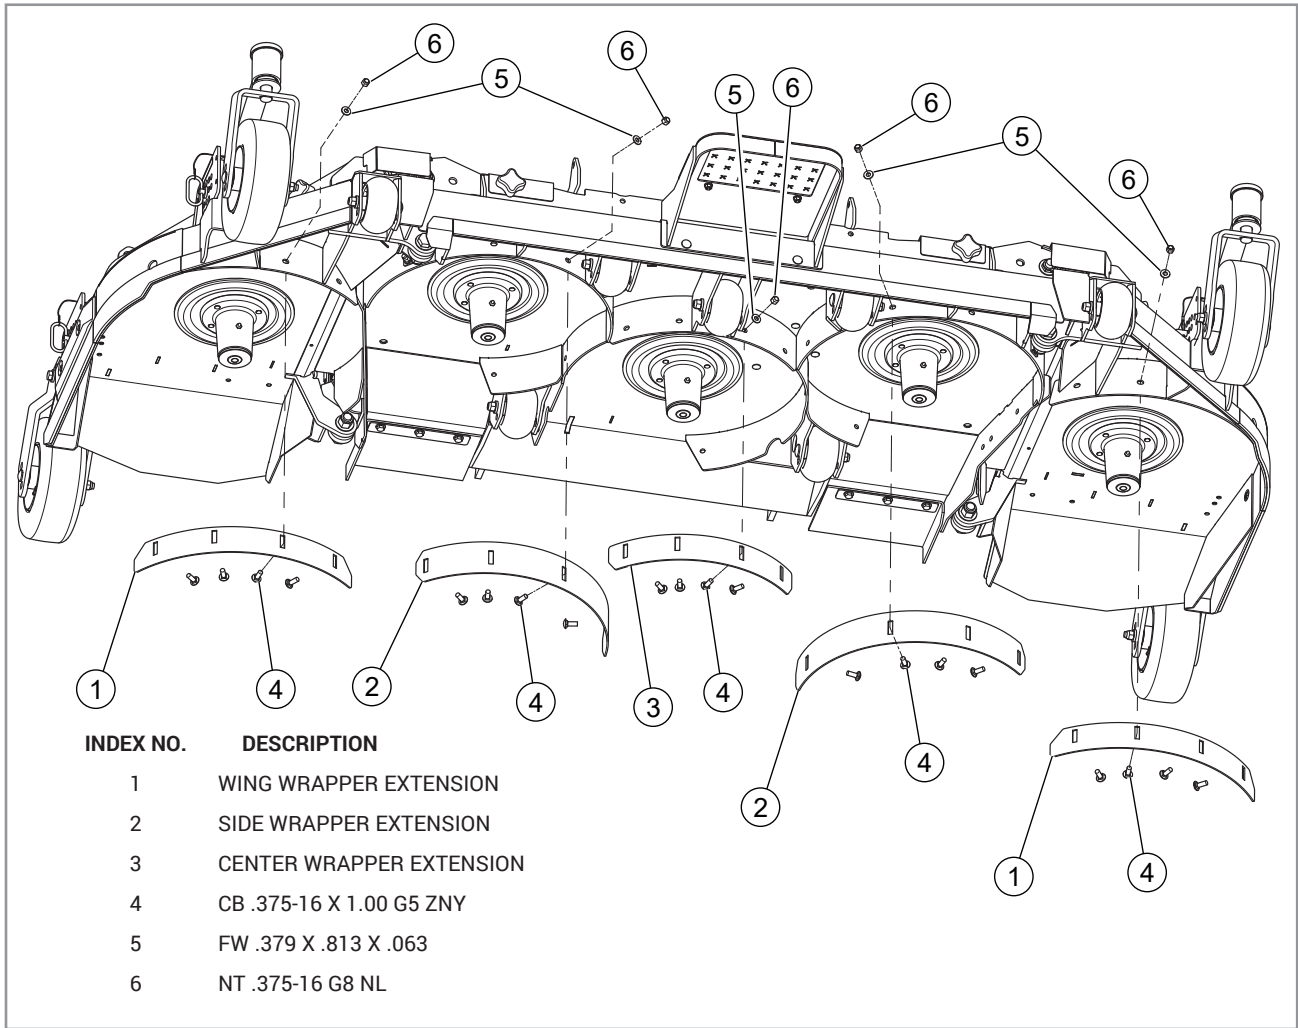

FIG. 2
8. Install the wrapper extensions with the provided hardware as shown. Set the wrapper extensions to the lowest setting before tightening the hardware. Leave the wrapper extensions in the lowest position when using the mulch kit. FIG. 2